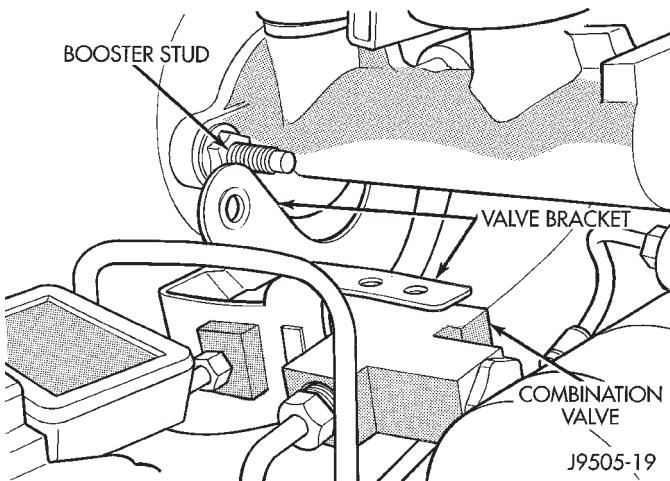

Fig. 21 Combination Valve Bracket
(2) Disconnect brakelines that connect combination valve to HCU.
(3) Disconnect wire from combination valve switch terminal. Be careful when separating wire connector as lock tabs are easily damaged if not fully disengaged.
(4) Slide HCU solenoid harness connectors off combination valve bracket. Then move harness aside for working clearance.
(5) Remove nuts attaching combination valve bracket to booster studs and valve bracket off booster studs (Fig. 21).